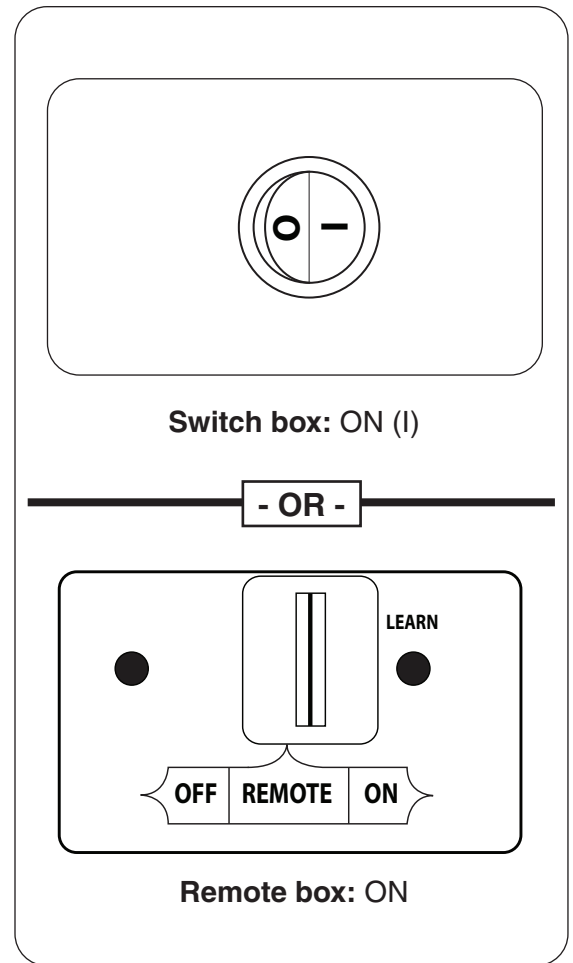

Fig. 31-1 Manual lighting
1. **Switch Box Models:** Locate the ON/OFF switch at the front of the switch box. Press the switch to the **ON (I)** position. See Fig. 31-1.
Remote Box Models: Locate the 3-position switch on the remote receiver (see Fig. 31-1), and slide the switch to the **ON** position.